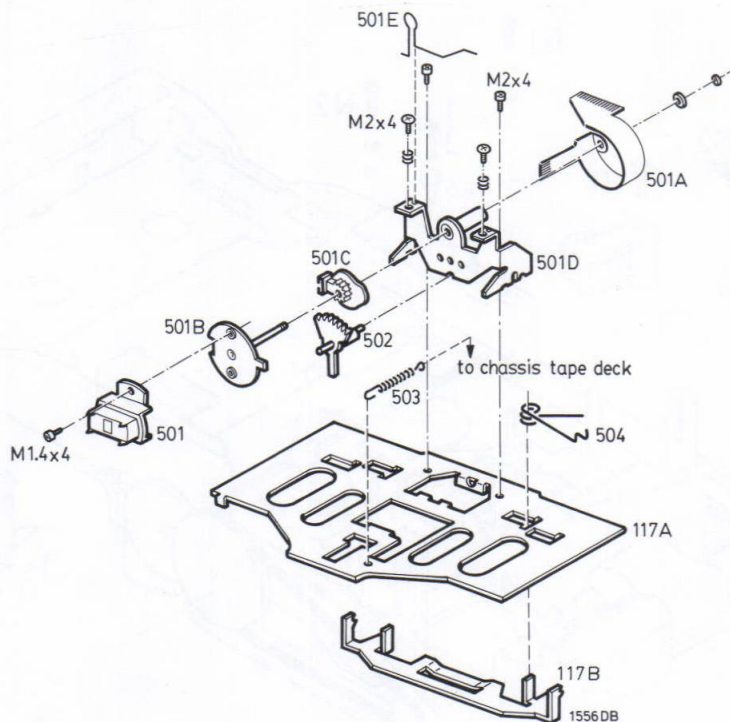

Fig. 6. Head support assembly.
This head support assembly is drawn separately in exploded view form in figure 6 to make ease recognizing of parts possible. It consists of command lever item 117B, head support item 117A, head item 501 (A to E) and cog item 502.